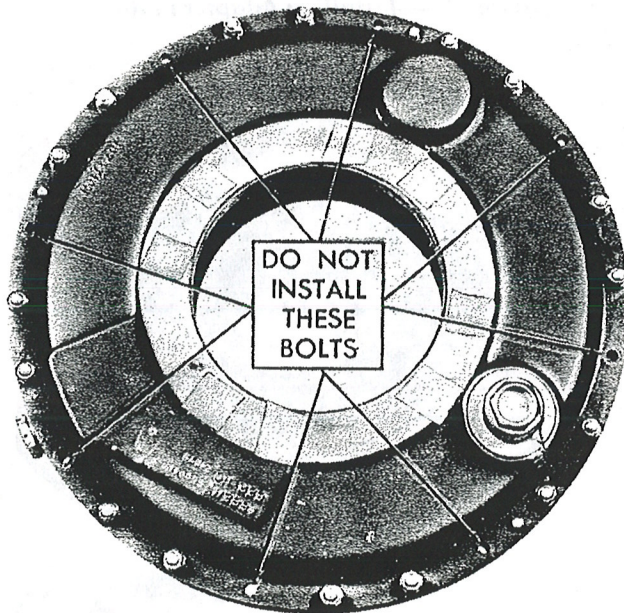

Figure 149—Install Regulator Cover Bolts, Which Do Not Retain Bulkhead
(13) Using new nuts and washers, install the cover mounting bolts, which hold the regulator cover and housing together, but which do not retain the spinner bulkhead to the regulator. (See figure 149.) The nuts have fiber inserts and do not require the use of safety wire.